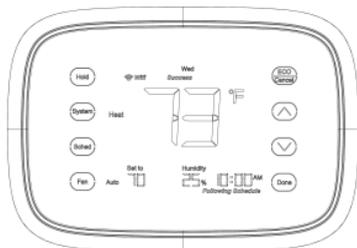

Fig.36.
1. Press , the screen will change. See Fig. 36 and 37.